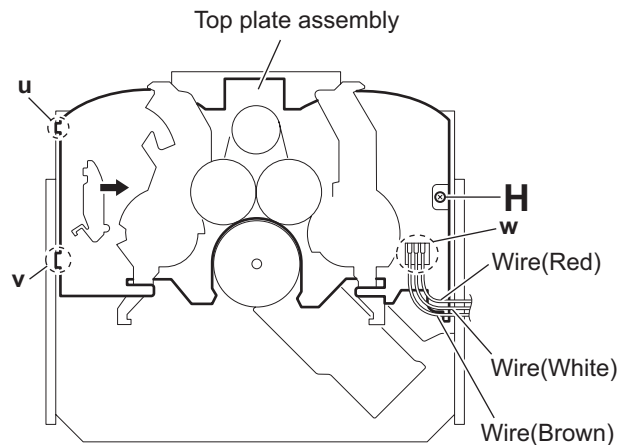

Fig.15
3.1.10 Removing the top plate assembly (See Fig.15)